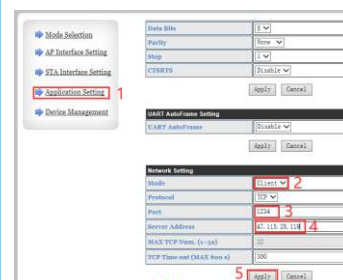

Figure14
5. In Application Setting, select Mode as Client> enter Port 1234> enter Server Address 47.115.28.119> click Apply to confirm as shown in Figure 14: